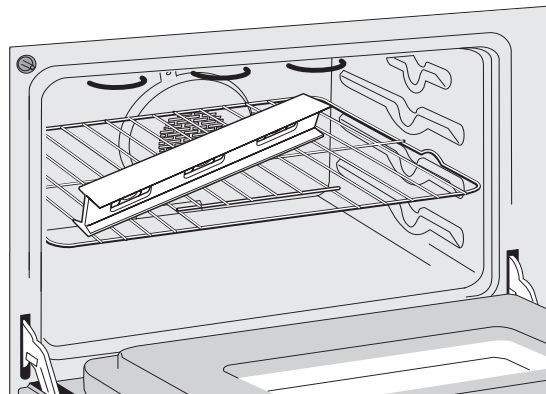

Figure 14
3. Check if the range is level by installing an oven rack in the center of the oven and placing a level on the rack (Figure 14).
2. Place a level on the rack (see Figure 14). Take 2 readings with the level placed diagonally in one direction and then the other. Level the range, if necessary, by adjusting the 4 leg levelers with a wrench (see Figure 26).